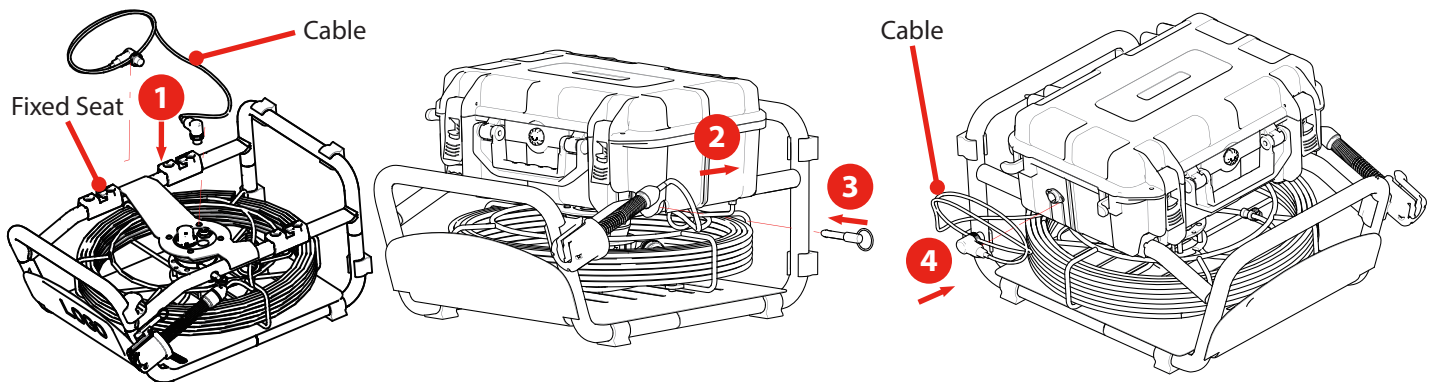

FIG. 7
2. INSTALL CONTROL BOX (FIG. 7)